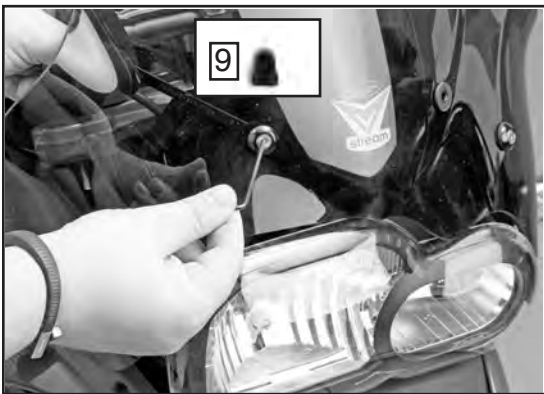

Figure 5
5. Firmly tighten the 4 screw assemblies. Figure 5 and 6 (5mm Hex Wrench, Closed Box Wrench)